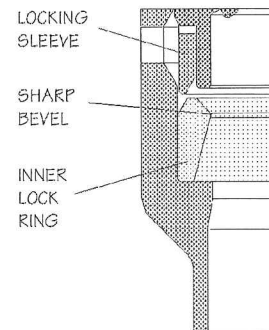

Figure 8. Inner lock ring detail
- b. Refer to **Figure 8**. Verify proper installation of the inner lock ring. Run a finger over the top ID of the inner lock ring to confirm the sharp bevel faces up. Touch the ring and adjacent surfaces to ensure the ring does not protrude into the ID of the Seal Assembly.